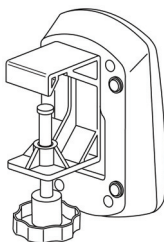
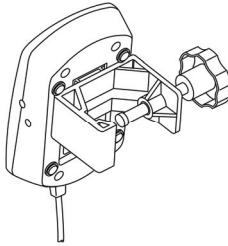

Figure 10: Control module and universal mounting bracket (vertical)
Figure 11: Control module and universal mounting bracket (horizontal)
3. Use the universal mounting bracket to attach the control module to an IV pole or bed rail in either a vertical or horizontal orientation (Figure 10 and Figure 11). Do not over-tighten knob.